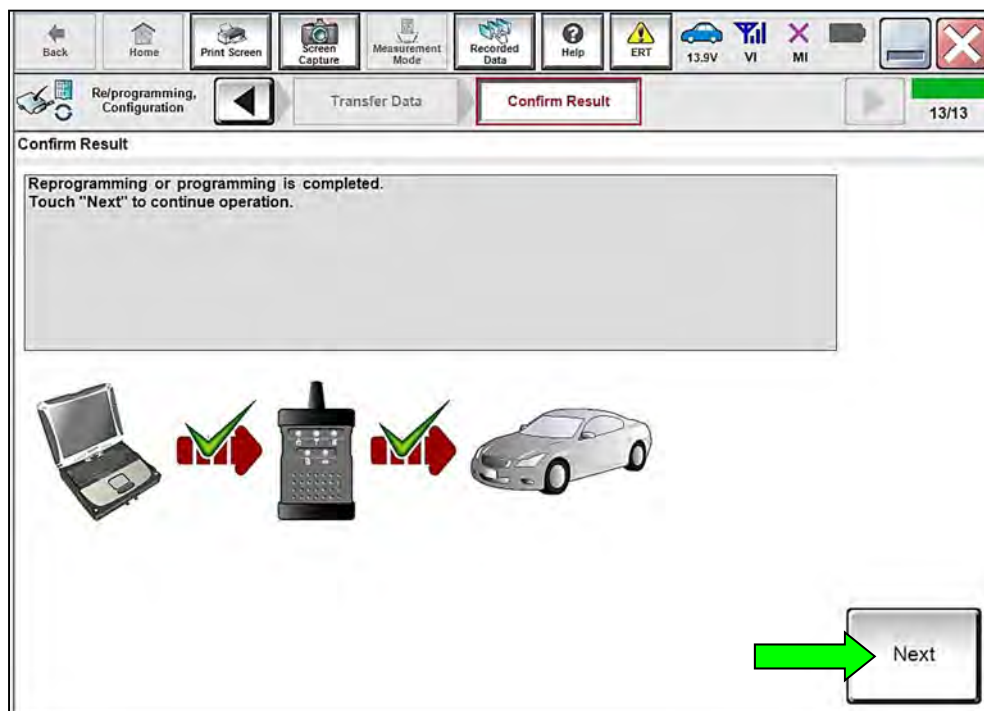

Figure 15
- If the screen in Figure 15 does not display (indicating that reprogramming did not complete), refer to the information on the next page.